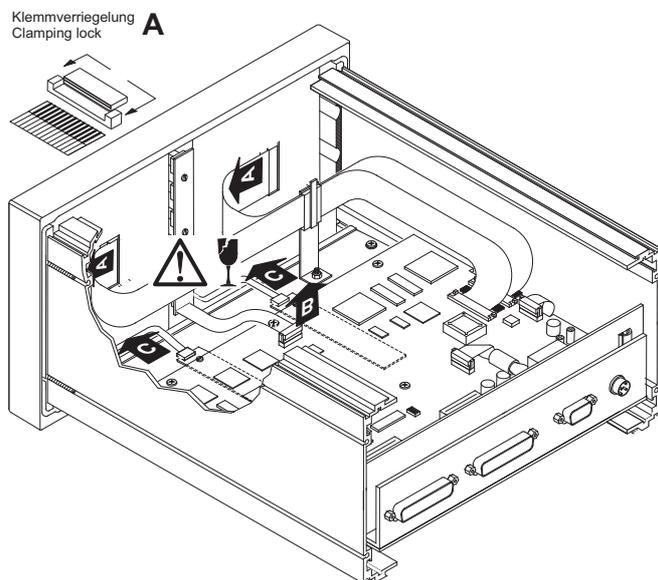

Fig. E 8-26 Removing connecting cables and data cables
2. Carefully remove the flat cables from the clamping locks of each display (see Fig. E 8-26, A). Then loose the locker of the key pad data cable at the upper side of the main pcb (see Fig. E 8-26, B) and remove it carefully. At last carefully remove the display connecting cables from the inverter pcbs on the lower side of the main pcb (see Fig. E 8-26, C). Avoid damage of the cables because of canting.